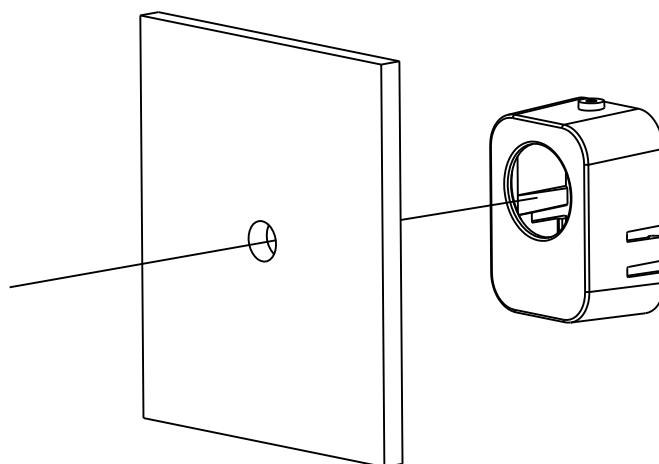

Figure 6-7 Paste the Bracket
2. Remove a side of the adhesive tape on the bracket. Paste the bracket on the mounting surface with aligning with the drilling hole. As shown in Figure 6-7.